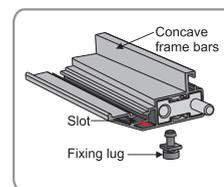

Figure 1
- Put the fixing lugs into the slots of top and bottom bars, taking the following table as reference. (Figure 1 - 2)